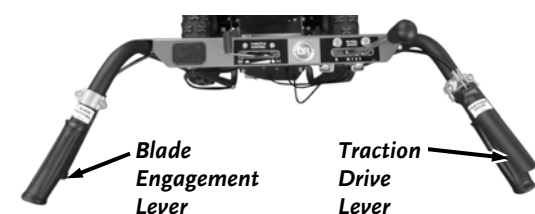

Figure 15
Note: Always release the Traction Drive Lever when shifting gears (**Figure 15**).
2. Gently squeeze the Traction Drive Lever to engage a gear (**Figure 15**).